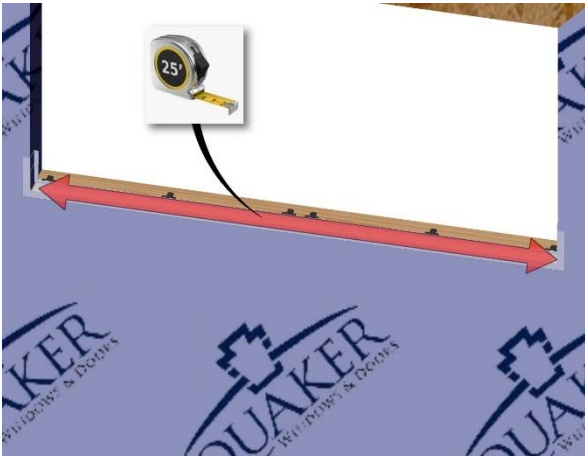

Fig. 11
- A. Measure between the two corner molds and cut the sloped section 1" less to allow for the curves in the corners. (Fig. 11)